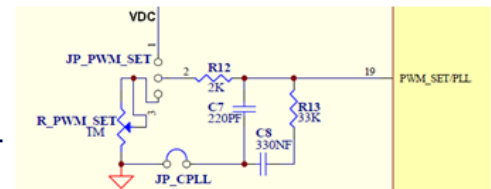

FIGURE 4. JUMPER SETTINGS FOR INTERFACE MODE, DIMMING CURRENT AND FREQUENCY ADJUSTMENT
2. The ISL97687IBZEV1Z evaluation board provides the adjustments of Boost switching frequency, LED dimming frequency, and LED peak with jumpers and potentiometers, as shown in Figure 4. Follow the steps for the adjustment and selection of the analog settings.